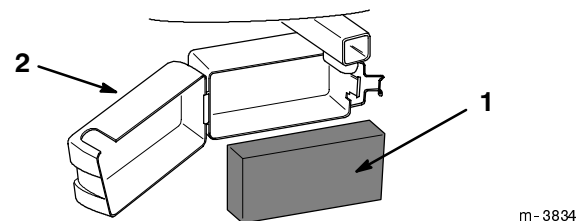

Figure 25
- Snap the air filter cover latch open and swing it to the side (Fig. 25).